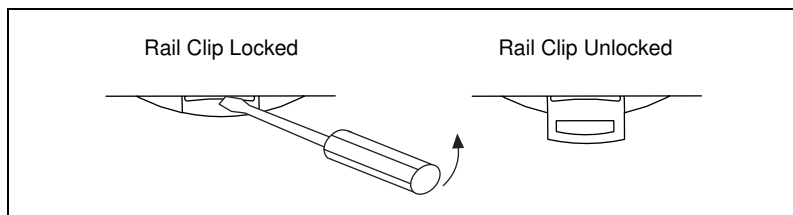

Figure 2-5. DIN Rail Clip
1. Use a flat-bladed screwdriver to open the DIN rail clip to the unlocked position, as shown in Figure 2-5.
3. Slide the FP-3000 to the desired position along the DIN rail. After the FP-3000 is in position, lock it to the DIN rail by pushing the rail clip to the locked position, as shown in Figure 2-5.
To remove an FP-3000 network module, unlock it from the DIN rail by placing a screwdriver in the slot on the rail clip and opening it to the unlocked position, as shown in Figure 2-5. Then, disconnect the FP-3000 from the local bus connector of the terminal base, and lift the FP-3000 off the rail.
1. Use a flat-bladed screwdriver to open the rail clip to the unlocked position, as shown in Figure 2-5.
3. Lock the panel mount accessory into place by pushing the rail clip to the locked position, as shown in Figure 2-5.